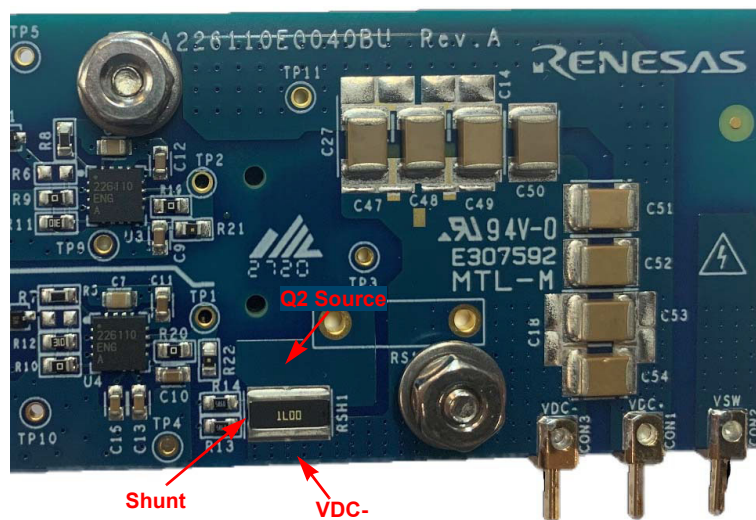

Figure 15. Current Shunt Position E
- The board provides an optional current shunt position E (Figure 15) between the source of Q2 and power ground return, allowing the drain current measurement for switching characterization tests such as Eon/Eoff measurement.